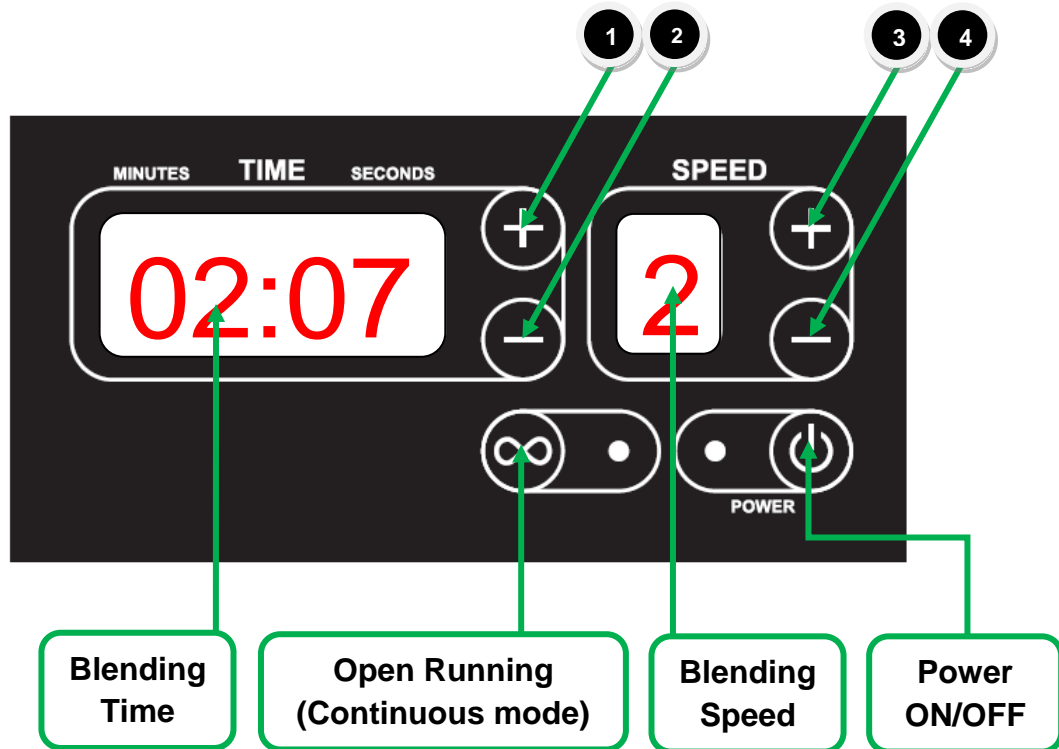

Fig. 2
- On the digital display adjust the timer setting and the blending speed. (Figure 2)
- Increase the blending time by pressing (+) key. (Figure 2/①)
- Decrease the blending time by pressing (-) key. (Figure 2/②)
- Increase the blending speed by pressing (+) key. (Figure 2/③)
- Decrease the blending speed by pressing (-) key. (Figure 2/④)